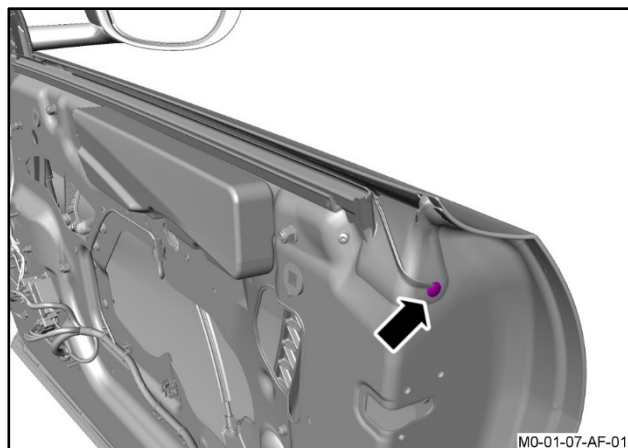

Figure 7
16. Remove the pin that attaches the inner waist seal to the door (refer to Figure 7).